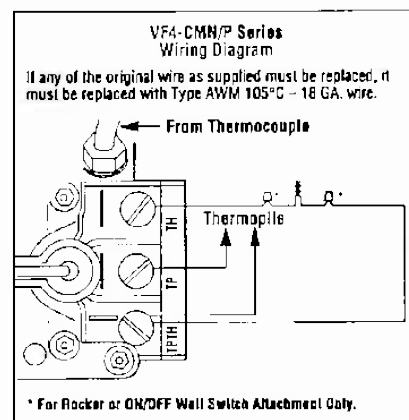
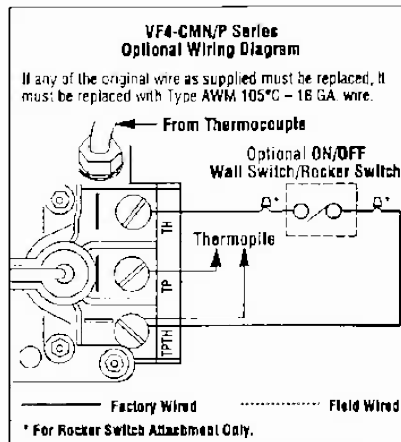

Figure 11
Figure 12
Step 6. Installing the Optional Remote Wall Switch (VF4-CMN/P models only) – The millivolt system comes from the factory wired as shown in Figure 11. Select a convenient location for the remote wall switch and connect the wiring to the appliance (Figure 12).
An optional wall switch kit can be installed along with the millivolt controlled appliances. The kit consists of a standard UL wall switch with cover plate. This kit provides for remote (wall) operation of the appliance. Replace the wall switch and cover plate of this kit with the components of the RCK and you can have true remote control of your vent-free appliance, turning it on and off from your favorite easy chair. The wall switch kit should be installed along with the appliance. Refer to *Figure 12* and Step 6 for detailed installation instructions.